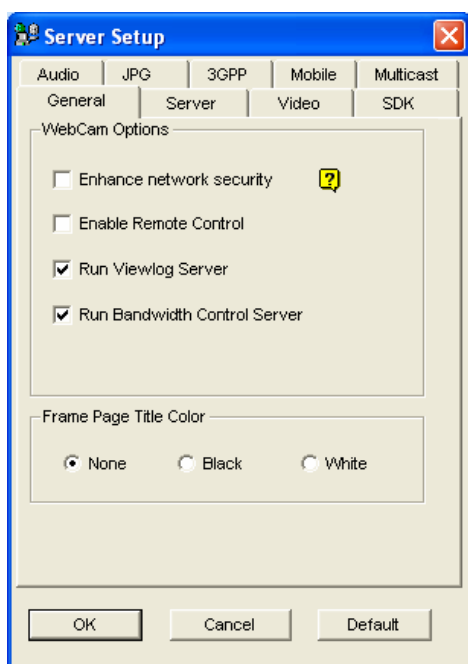

Figure 8-5
- ⑩ **Port:** The default communication port is 8866.
- ⑩ **RPB port:** This port is used for remote playback feature. The default value is 5511. For this feature to work, the **Run ViewLog Server** option (Figure 8-5) must be selected too.
- ⑩ **Max. connection:** Specify the number of users that can connect to this server. Set the number between 1 and 20.